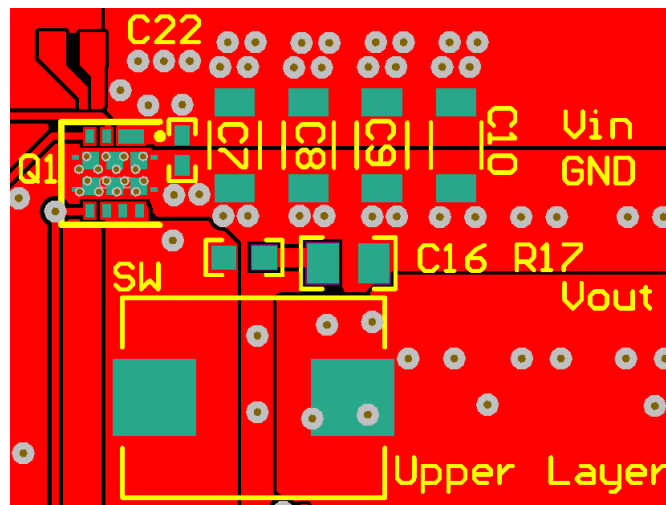
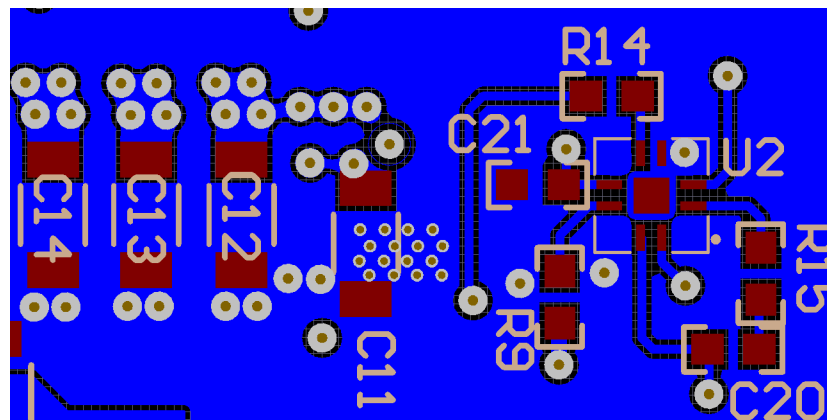

Figure 33. Recommended PCB Layout (Top Down View)
Figure 34. Recommended PCB Layout (Bottom View)
- The placement of the input capacitors relative to the power block's VIN and PGND pins should have the highest priority during the component placement routine. It is critical to minimize these node lengths. As such, ceramic input capacitors need to be placed as close as possible to the VIN and PGND pins (see Figure 33). It is recommended that one 3.3-nF (or similar), 0402, 50-V ceramic capacitor be placed on the top side of the board as close as possible to VIN and PGND pins. In addition, a minimum of 40 μF of bulk ceramic capacitance should be placed as close as possible to the power block in a design. For high-density design, some of these ceramic capacitors can be placed on the bottom layer of PCB with appropriate number of vias interconnecting both layers.
- The switching node of the output inductor should be placed relatively close to the power block VSW pins. Minimizing the node length between these two components will reduce the PCB conduction losses and actually reduce the switching noise level. In the event the switch node waveform exhibits ringing that reaches undesirable levels, the use of a boost resistor or RC snubber can be an effective way to easily reduce the peak ring level. The recommended boost resistor value will range between 1.0 Ω to 4.7 Ω depending on the output characteristics of driver IC used in conjunction with the power block. The RC snubber values can range from 0.5 Ω to 2.2 Ω for the R and 330 pF to 2200 pF for the C. Please refer to Snubber Circuits: Theory, Design and Application (SLUP100) for more details on how to properly tune the RC snubber values. The RC snubber should be placed as close as possible to the VSW node and PGND (see Figure 33 and Figure 34).⁽¹⁾
(1) Keong W. Kam, David Pommerenke, "EMI Analysis Methods for Synchronous Buck Converter EMI Root Cause Analysis", University of Missouri – Rolla
- Use the smallest drill size allowed in your design. The examples in Figure 33 and Figure 34 use vias with a 10-mil drill hole and a 16-mil capture pad.